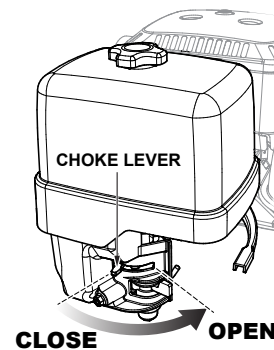

Figure 21. Choke Lever (Open)
- If the choke lever was moved to the "CLOSED" position to start the engine, gradually move it to the "OPEN" position (Figure 21) as the engine warms up. If the engine has not started, repeat steps 1 through 8.